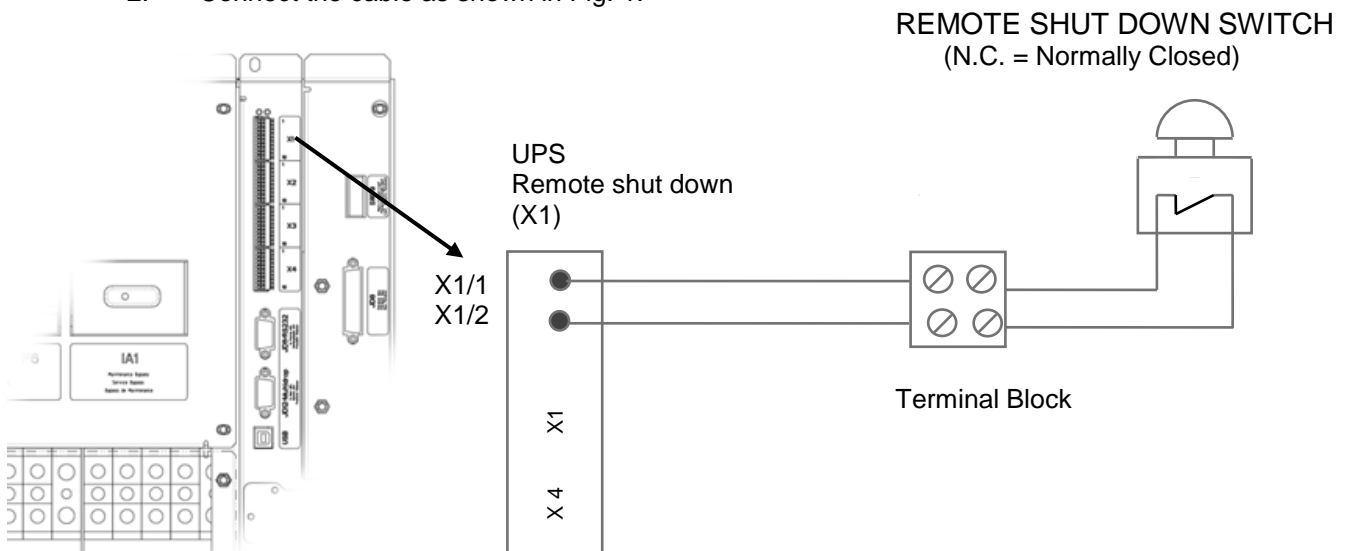

Fig 1. Drawing of the wiring for the REMOTE SHUT DOWN SWITCH.
2. Connect the cable as shown in Fig. 1.